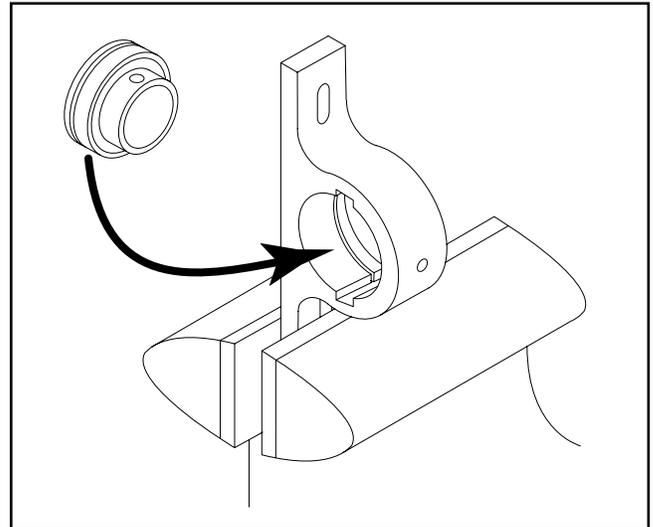
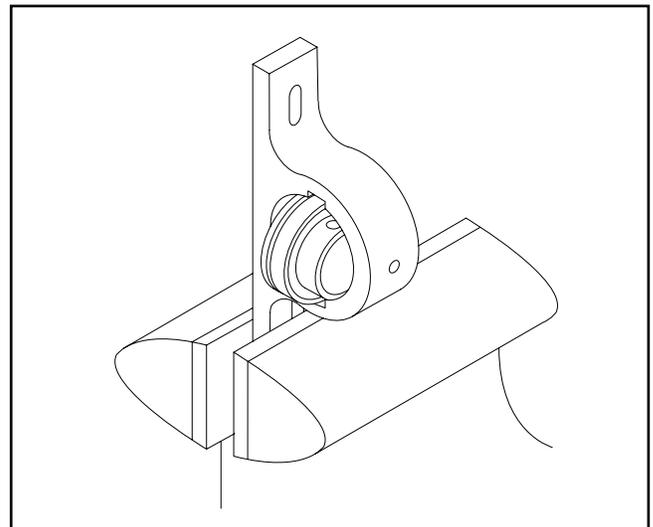

Figure 19. Matching bearing tab to notch.
Figure 20. Inserting bearing into housing.
3. Once the old bearing is removed, clean the bearing housing. Insert the new bearing into the notches in the housing as shown in **Figure 19**. Twist the bearing clockwise 90° after it reaches into the housing as far as it will go as shown in **Figure 20**.